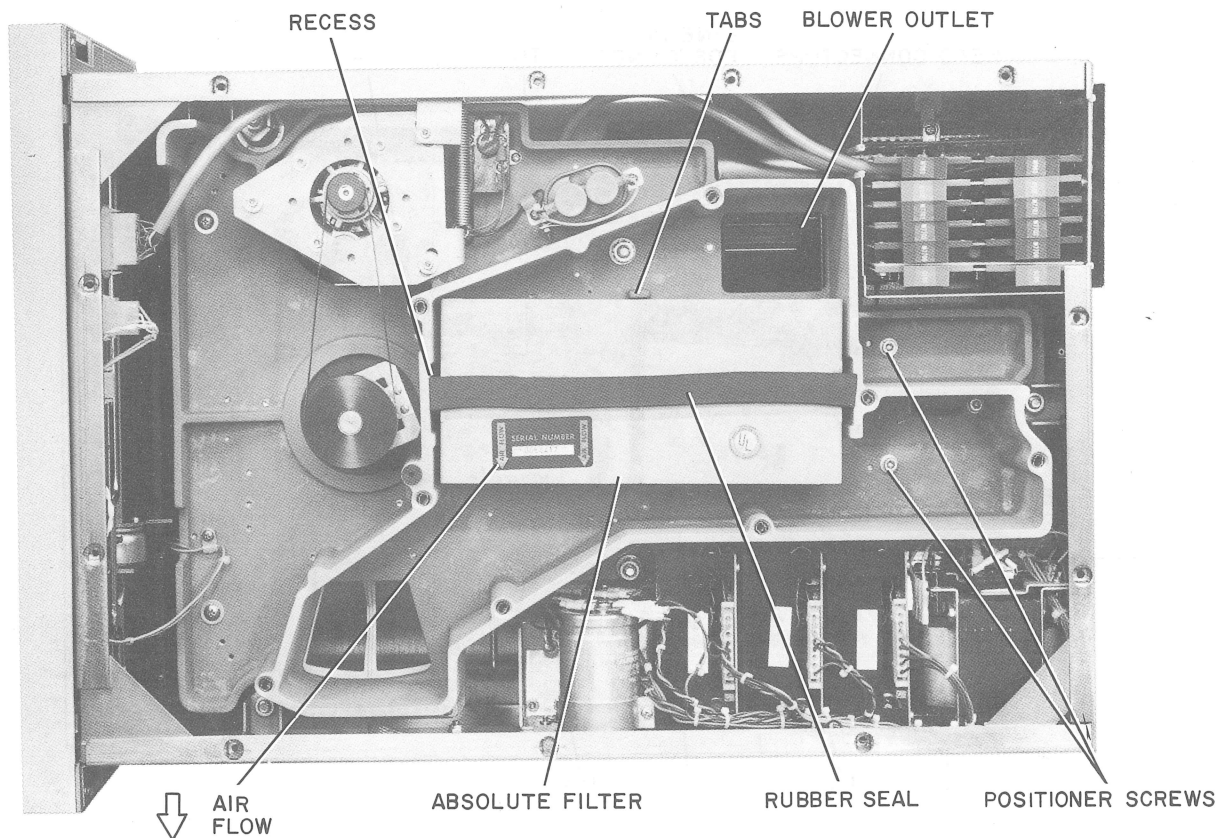

Figure 5-2 Absolute Filter Removal
3. Remove the bottom and plenum covers (Figure 5-2).
8. Remove the absolute filter (Figure 5-2).
9. Remove the three screws, beneath the baseplate, attaching the positioner to the baseplate (Figure 5-2).
2. Insert the three positioner holding screws (Figure 5-2) through the bottom of the baseplate and finger tighten the screws.
8. Install the absolute filter with the arrow (air flow) pointing away from the blower outlet (Figure 5-2). Ensure that the filter is positioned between the two tabs and that the rubber seal is in the baseplate recess.